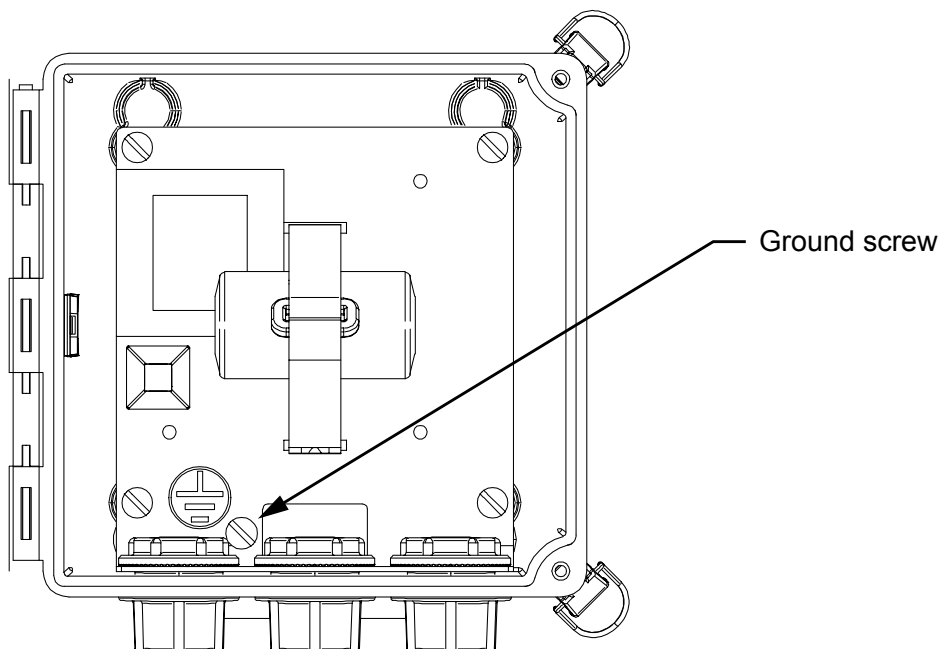

Figure 2.6—Ground connection screw (enclosure shown with door removed)
3. Connect a ground wire to the internal ground connection screw located inside the enclosure. The screw is identified with the ground symbol, as shown in Figure 2.6, page 18. For DC-powered installations, route the protective earth grounding conductor into the enclosure with the incoming power conductors.